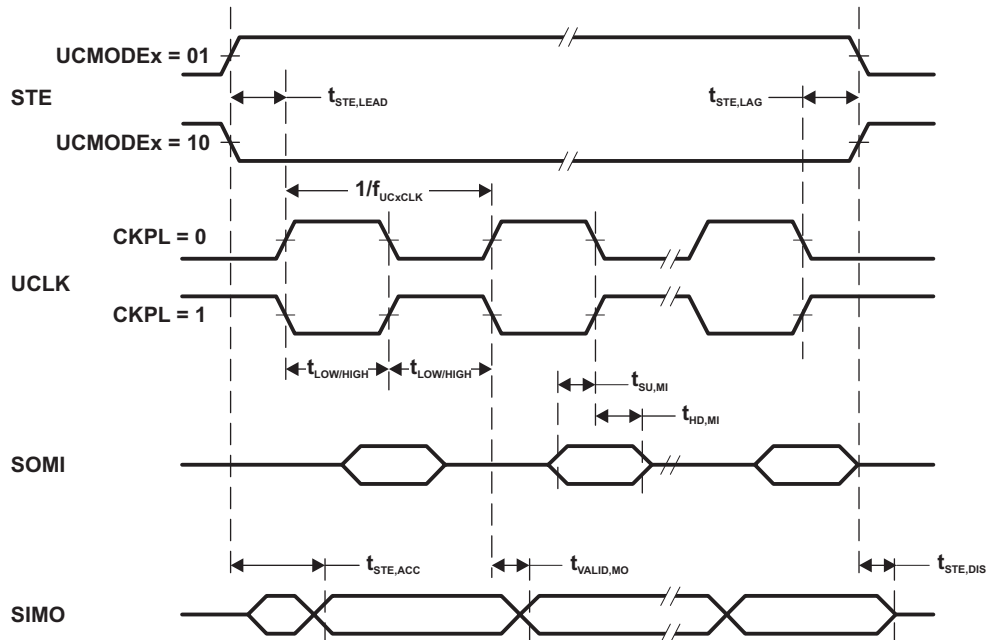

Figure 5-11. SPI Master Mode, CKPH = 0
- (1)  $f_{UCxCLK} = 1/2t_{LO/HI}$  with  $t_{LO/HI} = \max(t_{VALID,MO(eUSCI)} + t_{SU,SI(Slave)}, t_{SU,MI(eUSCI)} + t_{VALID,SO(Slave)})$ . For the slave's parameters  $t_{SU,SI(Slave)}$  and  $t_{VALID,SO(Slave)}$  see the SPI parameters of the attached slave.
- (2) Specifies the time to drive the next valid data to the SIMO output after the output changing UCLK clock edge. See the timing diagrams in Figure 5-11 and Figure 5-12.
- (3) Specifies how long data on the SIMO output is valid after the output changing UCLK clock edge. Negative values indicate that the data on the SIMO output can become invalid before the output changing clock edge observed on UCLK. See the timing diagrams in Figure 5-11 and Figure 5-12.